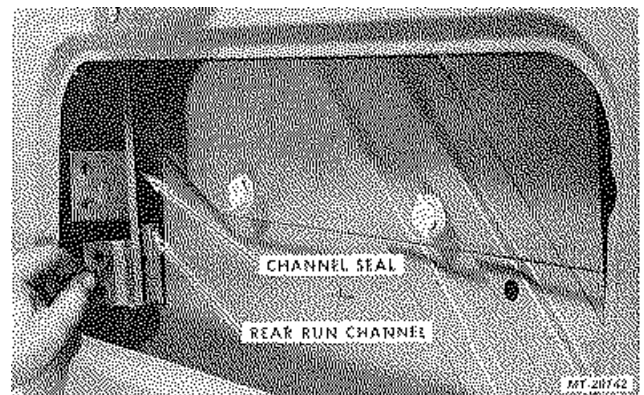

Fig. 12. Removing Rear Run Channel
6. Remove two retaining bolts from lower end of glass rear run channel. Remove channel and channel seal (Fig. 12) from glass and lay aside in door.